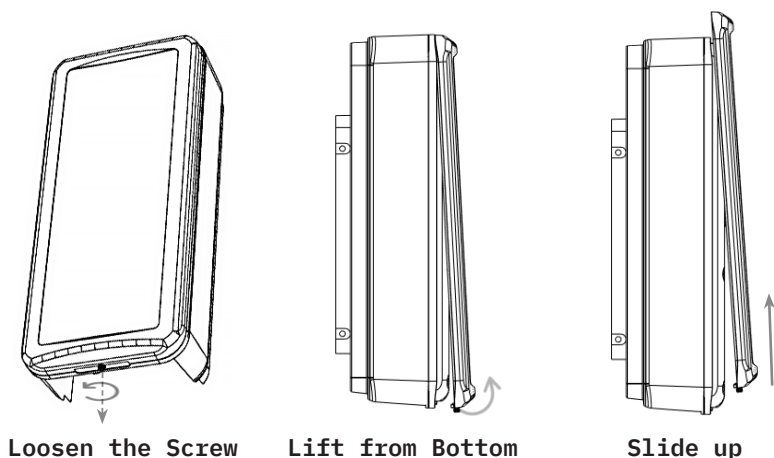

Figure 3-2 Removing the Front Cover
Step 1: Loosen the captive screw at the bottom of the front cover with the Hex Driver 7/64" and remove the cover as shown in Figure 3-2.